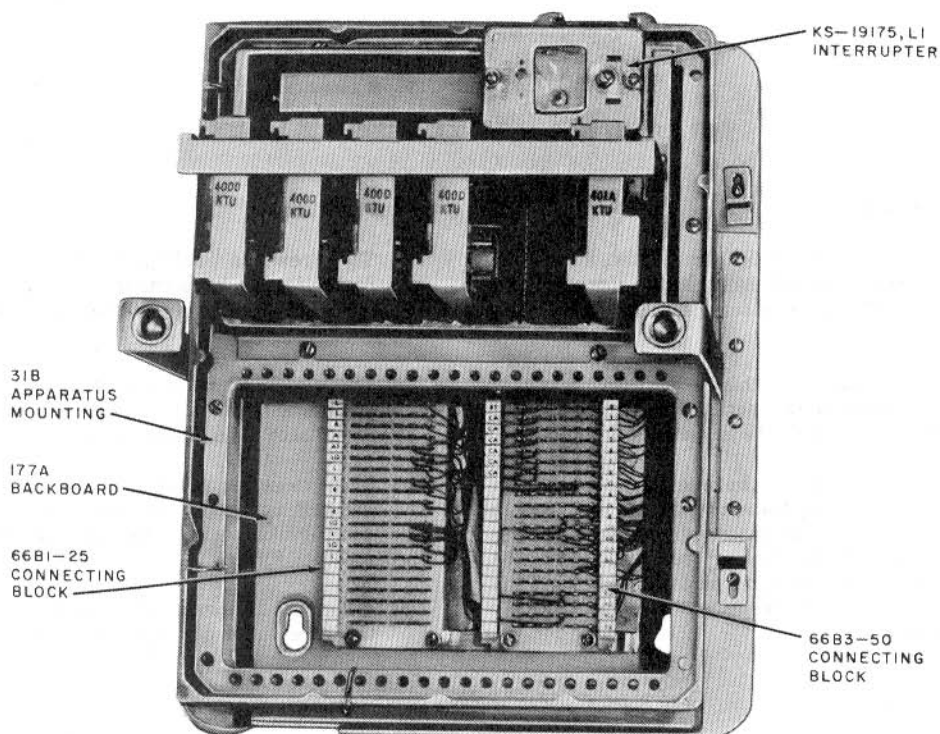

Fig. 1—501-Type KSU Front View with Cover Removed
1.01 This section provides identification, installation, connections and maintenance information for 501- and 502-type key service units (KSU). See Fig. 1.